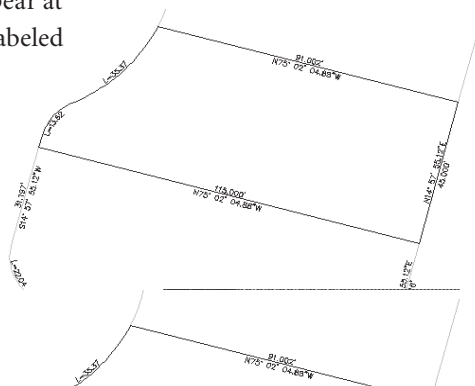

Figure 3.10
4. At the `Select Entity:` prompt, pick each line and arc in the drawing one at a time. A label will appear at the midpoint of each entity. After you have labeled all of the lines, click Close on the Add Labels dialog. Your result should be similar to Figure 3.10.